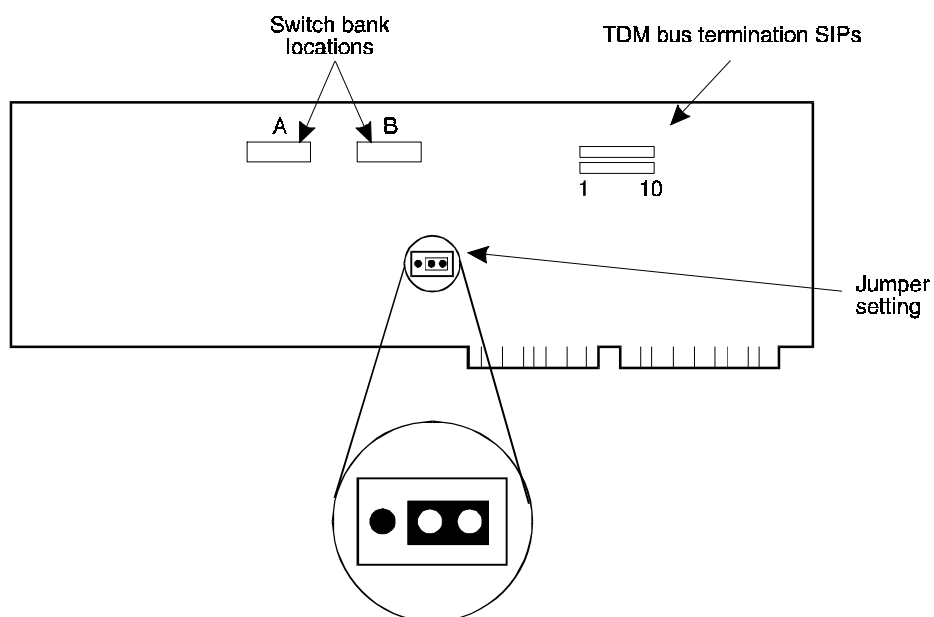

Figure D-42. IVP6 (AYC5) T/R Card Switch Bank and Jumper Locations
- IVP6 (AYC5) (see Figure D-42)